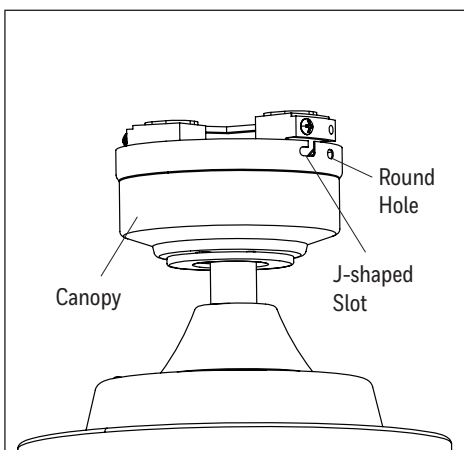

Figure 5.2
2. Align the canopy over the loosened mounting bracket screws. Place the J-shaped slot of the canopy onto the mount bracket screws and rotate clockwise (Figure 5.2).